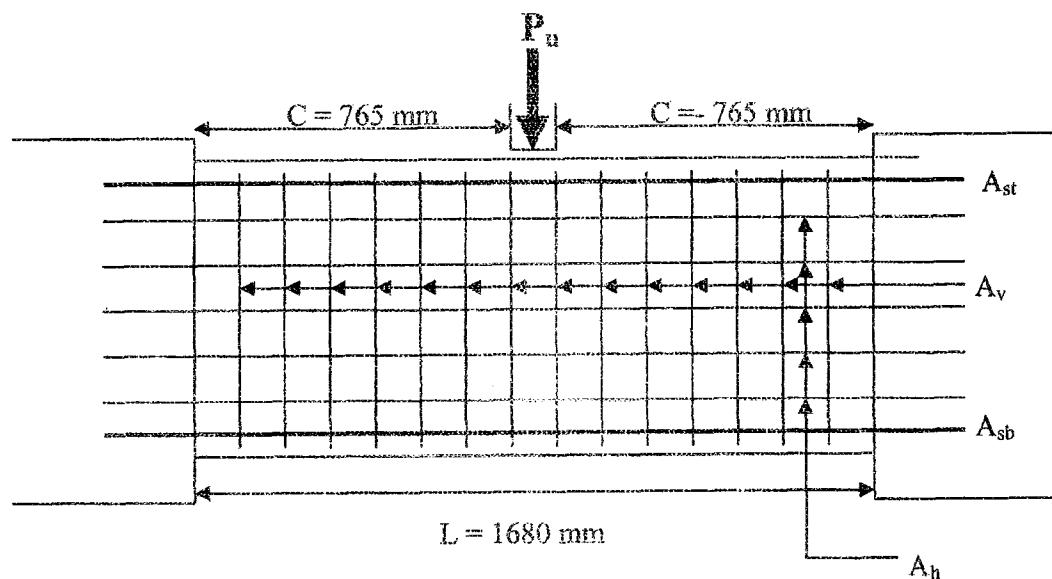

Figure 4 : Specimen Profile
6. (a) The elastic theory may not be an appropriate tool to analyse a deep beam. With the aid of suitable sketches, discuss briefly **THREE (3)** major behavioural differences between deep and shallow continuous deep beam. (8 marks)
- (b) Figure 4 shows a test specimen profile of a single span deep beam with fixed end support. Calculate the predicted failure load using the following data:-